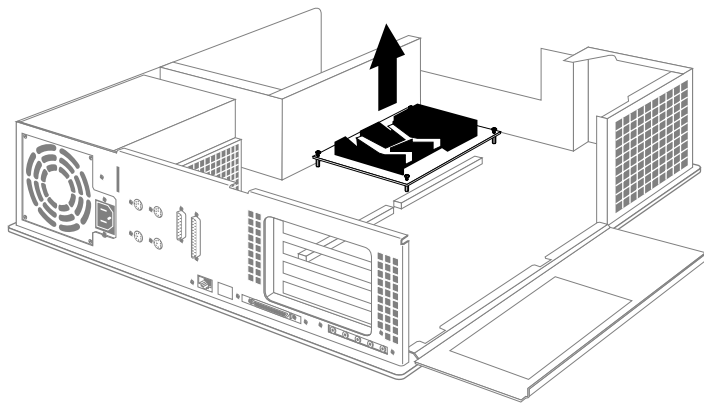
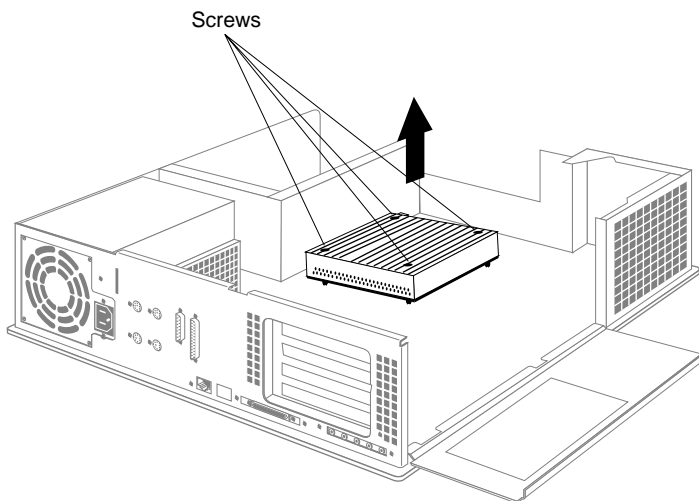

Figure 8-15 Removing the R4000 CPU Module
Figure 8-16 Removing the R4400 150 MHz CPU Module
4. Remove the R4000 100 MHz CPU module, as shown in Figure 8-15. (Some R4000 modules may look like the module shown in Figure 8-16.)
5. Remove the R4400 150 MHz CPU module, as shown in Figure 8-16.